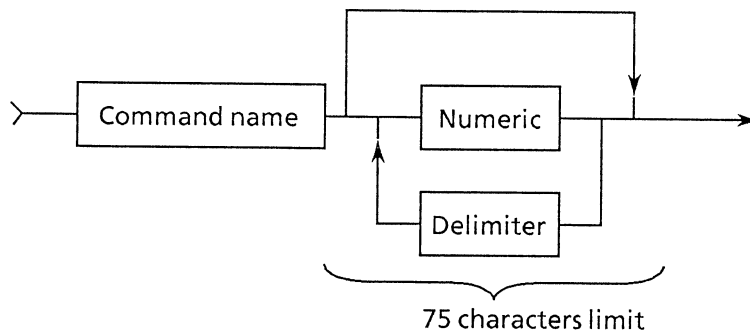

Fig. 5-12 Command Message Structure
3. Zero suppress can be used for numeric expression in Fig. 5-12.